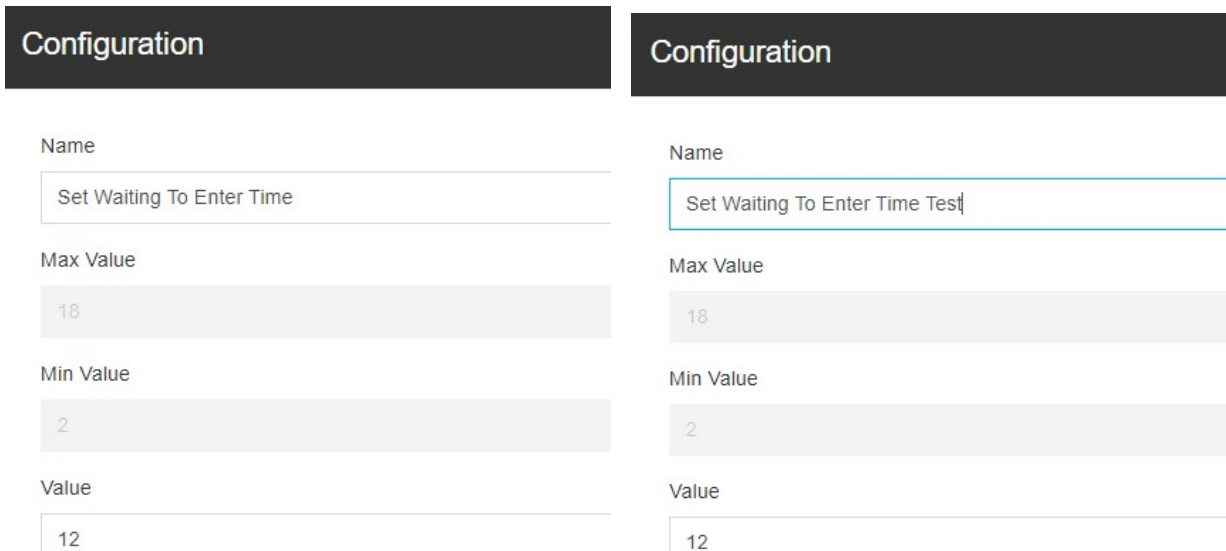

Figure 6-38 Editing the configuration
2. The **Configuration** page is displayed. If you do not make any modification, the **SAVE** button is unavailable. If you click **CLOSE**, the system exits the edit page (as shown in Figure 6-38).